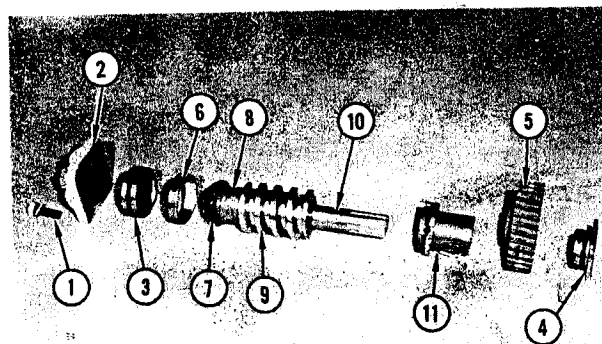

FIGURE 7. 2ND REDUCTION GROUP
Refer to Figure 7 for numerical sequence disassembly of second reduction group. Remove four capscrews and lockwashers (1). Remove thrust bearing adjusting cap (2) and remove adjusting setscrew from cap. Remove bearing retainer (3) and remove "O" ring from retainer. Remove four stud nuts and lockwashers from worm thrust cap (4). Remove thrust cap and remove "O" ring from thrust cap. Place a block of wood between spiral gear (5) and inner wall of housing. Using a brass drift, drive worm shaft from hub of spiral gear and remove gear